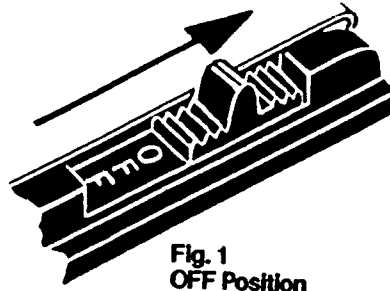
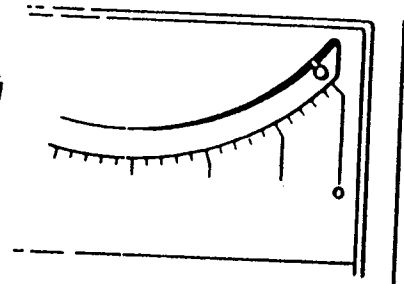

Fig. 1
Fig. 2
With chart drive switch in "OFF" position (see fig. 1) exposing the word "OFF," check mechanical zero setting of pointer (see fig. 2) before making any electrical connections to the instrument. If adjustments are necessary proceed as follows:
- c) Apply finger to star wheel and turn until pointer lines up with zero mark at the extreme right of scale. See fig. 2.
1. Move chart drive switch to "OFF" position exposing the word "OFF." See fig. 1.
4. To remove chart from take-up spindle ⑤, move the latches away from the take-up spindle. Turn knurled knob on spindle ⑤ until the slot in the take-up drive pulley at the opposite end of the spindle is lined up with the slot in the side frame of the recorder. Slide the spindle and chart up and out of the slots in the side frames of the recorder. Remove tape from chart and bobbin.
5. To unload chart paper from recorder turn chart drive switch off, exposing the word "OFF". See fig. 1. Follow 4 above. Remove chart from feed shaft ④ and pull paper thru recorder.
1. Chart drive switch must be in "OFF" position (exposing the word "OFF"). See fig. 1.